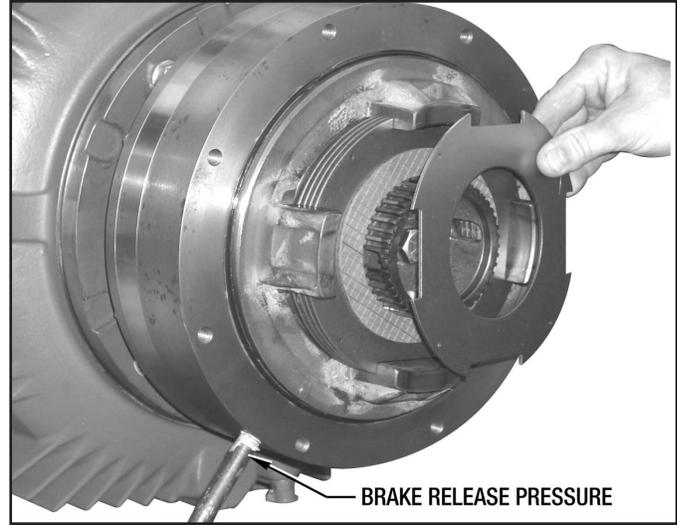

Figure 8 - Installing Brake Stack
2. While air pressure is being applied, install Drive Plates (#12) and Friction Discs (#13) as determined by the **Torque Assembly Configurations Chart** and as shown in *Figure 8*.
The Friction Discs will also start onto the Splined Hub more easily if tilted slightly (*See Figure 8*).